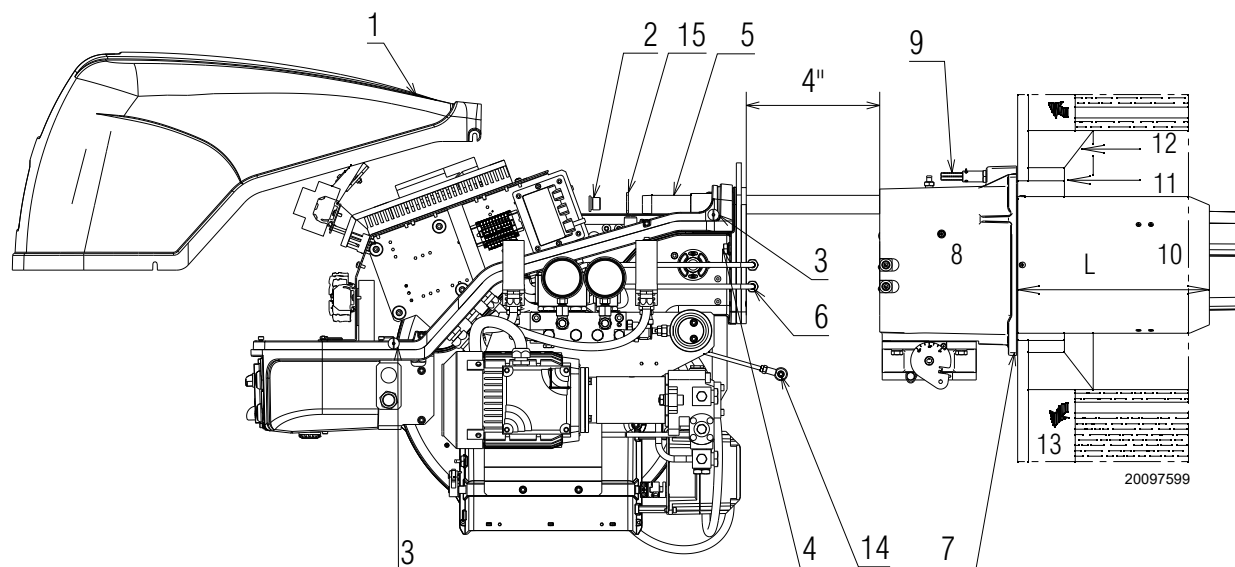
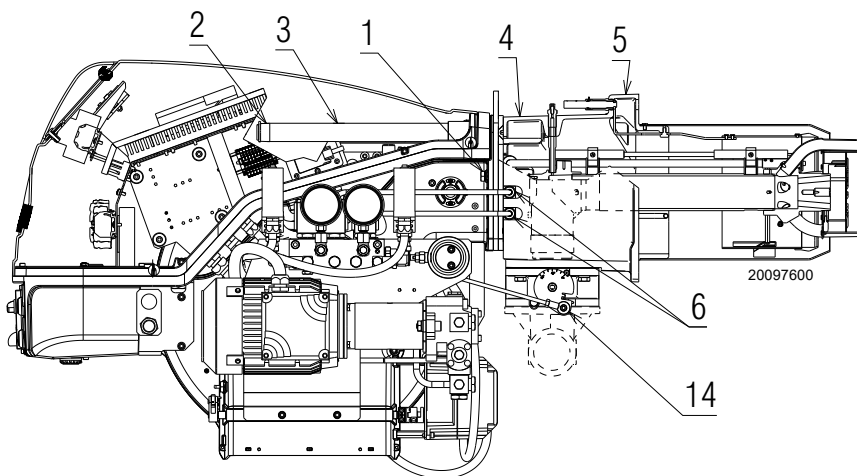

Fig. 12
Fig. 22
For boilers having a water-cooled front, the insulation 11)-12)(Fig. 12) is not required unless it is required by the boiler manufacturer.
Detach the combustion head from the burner, (Fig. 12):
- Refit the burner to the slide bars 3)(Fig. 22) at approximately 4" from the sleeve 4) - burner positioned as shown in (Fig. 12, page 18) - insert the ignition electrode cables.
- Slide the burner up to the sleeve so that it is positioned as shown in (Fig. 22);
- refit screws 2)(Fig. 22) on slide bars 3) including the safety plate 15) Fig. 12, page 18;
- connect the oil pipes again by screwing on the two connectors 6)(Fig. 12, page 18).